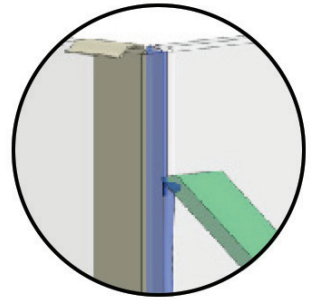

FIG 20.
- Spray channels and glass with slightly soapy water then use spatula provided to clean off excess silicone (FIG 20). Repeat this process 3 times. Use minimal water then wipe off with paper towels.